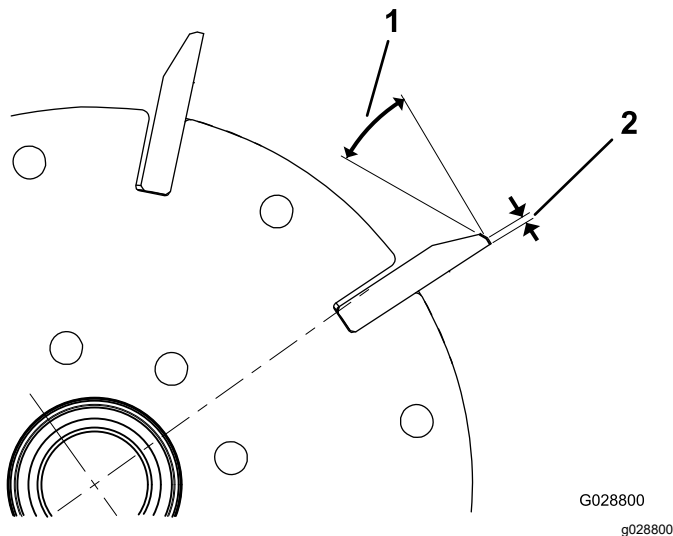

Figure 28
- Apply a 30° relief grind on all reel blades until the land width is 0.8 mm (0.03 inch) wide (Figure 28).